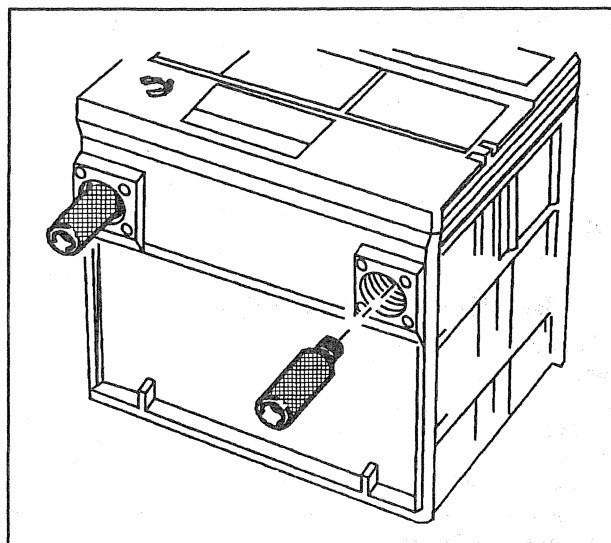

Figure 5—Battery Terminal Adapters
- Load testing requires the use of battery side terminal adapters (figure 5), (GM P/N 12303040 or equivalent) to ensure good connections. Do not load test a frozen battery. Replace it.